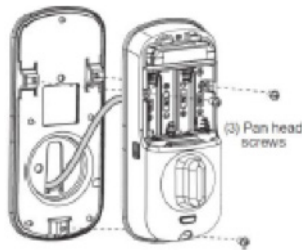

**Figure 6**
6. Install the Inside Latch side of the lock on the inside mounting plate. Note: the horizontal orientation of the tailpiece as you insert the latch side; the latch should be vertical (Fig. 6).